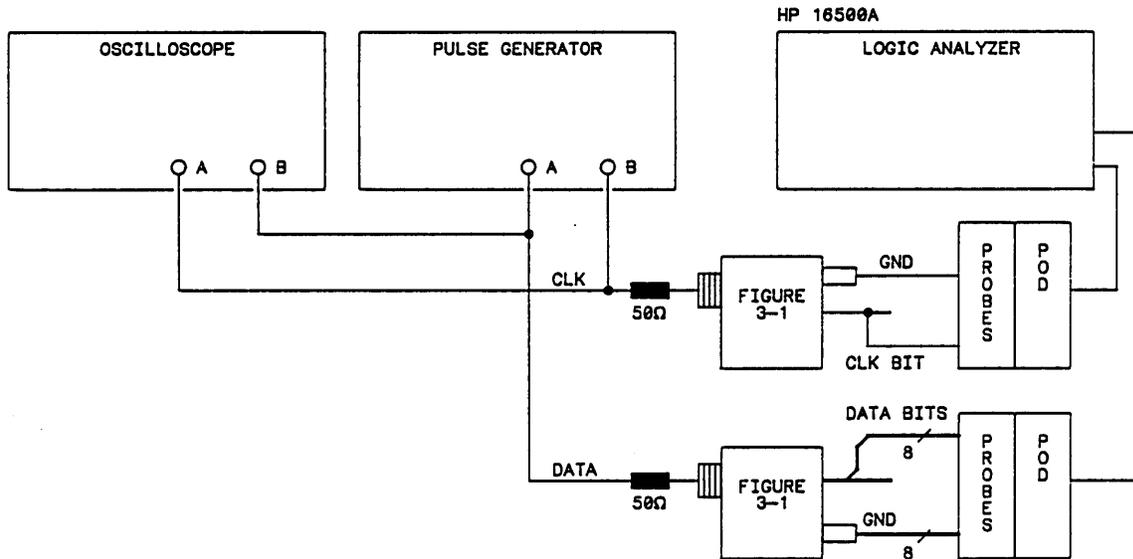

Figure 3-15. Setup for Clock, Qualifier, and Data Inputs Test 4
1. Connect the HP 16510A and test equipment as in figure 3-15.